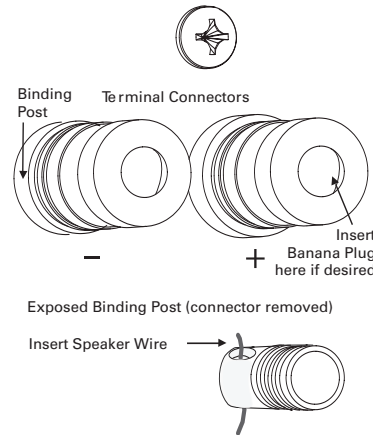

Figure 18: Making Connections
2. Insert the stripped ends of the wires through the holes, as shown in Figure 18.
If using a back box or if limited by installation depth, the banana plugs can also be inserted through the sides of the binding posts. See Figure 18.